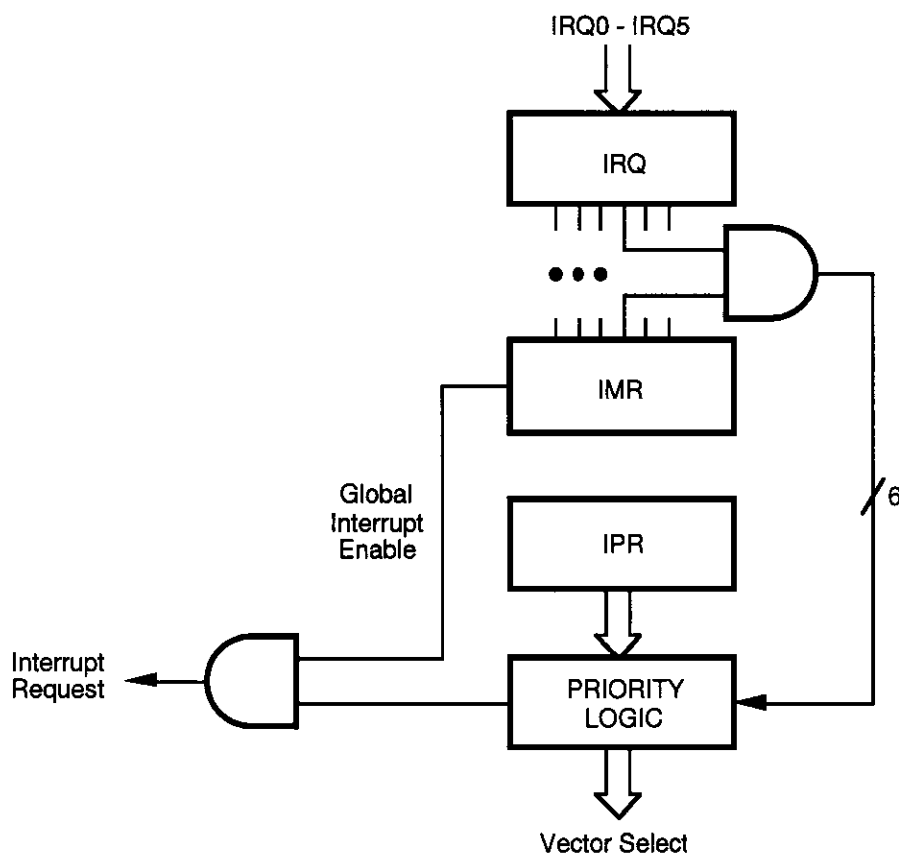

Figure 15. Interrupt Block Diagram
**Interrupts.** The Z8 has six interrupts from six different sources. These interrupts are maskable and prioritized (Figure 15). The sources are divided as follows: the falling edge of P31 (AN1), P32 (AN2), P33 (REF), the rising edge of P32 (AN2), and two counter/timers. The Interrupt Mask Register globally or individually enables or disables the six interrupt requests (Table 4).